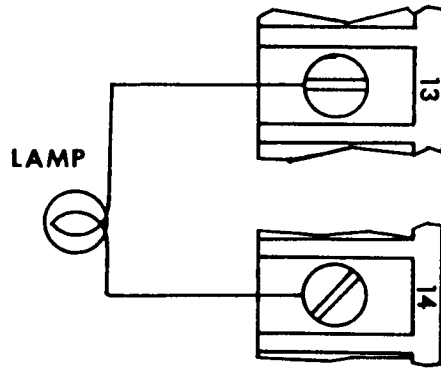
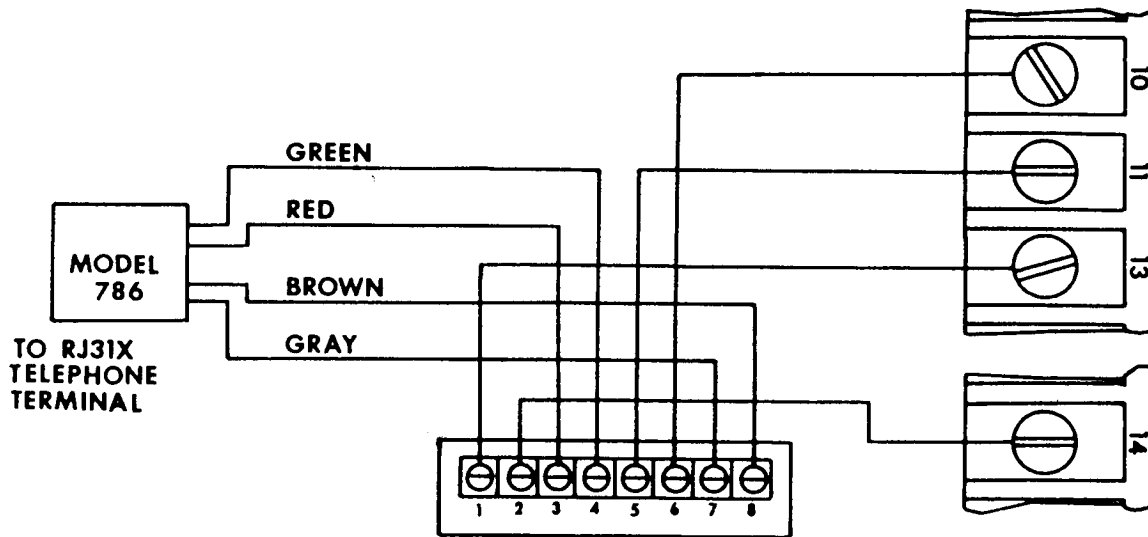

Figure 13
Figure 17
It is suggested that an indicator lamp be used as shown in Figure 13 to let the subscriber or installer know that: (1) the unit is reporting, and (2) that the Receiver has been reached and the message verified.
Terminal 14 is a low current (100 ma.) switched output on the 120 Series Dialer. This output is normally used to activate a Model 714 Line Seizure Module or may be used to light an indicator lamp as shown in Figure 13. Connection to the Model 714 is made as follows in Figure 17: